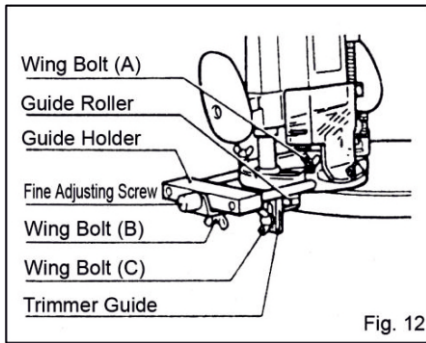

Fig. 12
Install the trimmer guide on the guide holder with the wing bolt (B). Insert the guide holder into the holes in the tool base and tighten the wing bolt (A). To adjust the distance between the bit and the trimmer guide, loosen the wing bolt (B) and turn the fine adjusting screw (1.5 mm or 1/16" per turn). When adjusting the guide roller up or down, loosen the wing bolt (C). After adjusting, tighten all the wing bolts securely. **(Fig. 12)**